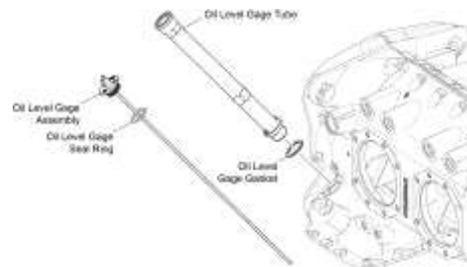

Figure 3
- D. Carefully turn the oil level gage tube (Figure 3) to remove the oil level gage tube and oil level gage gasket from the engine. Discard the oil level gage gasket.
- A. Install a new oil level gage gasket on the threads of the oil level gage tube (Figure 3).